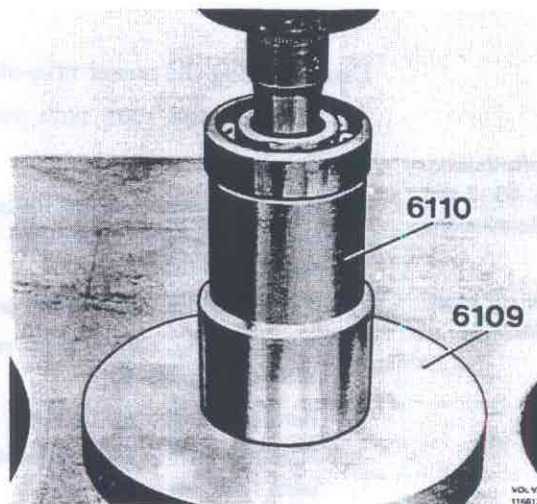

Fig. 48-12. Removing the inner bearing
6. Place the shaft in 6110 and press off the inner bearing, see Fig. 48-12.